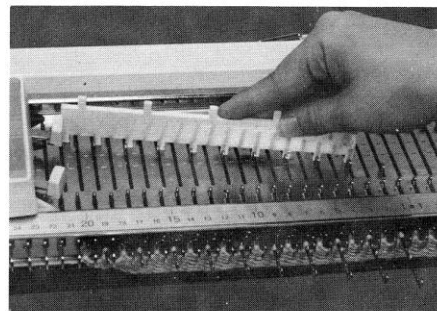

Fig.82
Using the 1 x 1 selector plate, push forward into position (D) from position (B) every alternate needle starting with right end needle. (Figs.82 & 83)